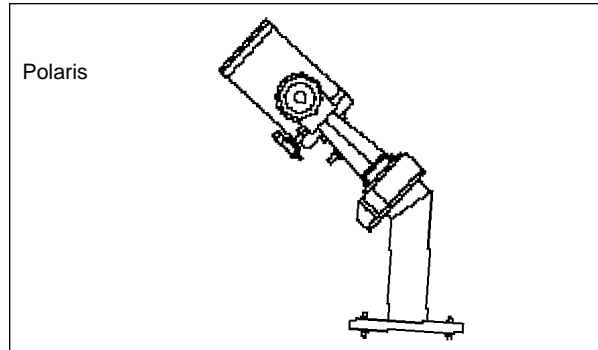

Fig. 14: Mount too high.
- If the star drifts North (or up), the telescope's polar axis is pointing too high (Fig. 14).